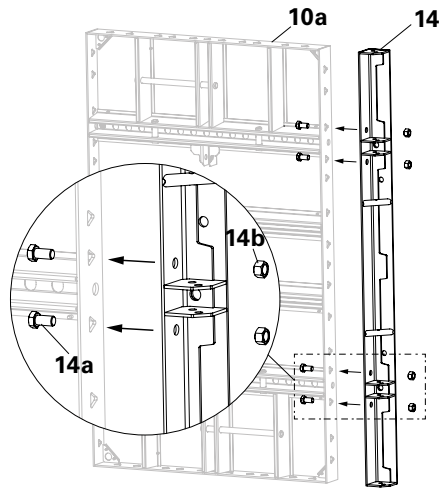

Fig. A4.15
1. Install the HSA external corner (14) to the panel (10a) using four M16x30 bolt (14a) and four M16 nut (14b). (Fig. A4.15)